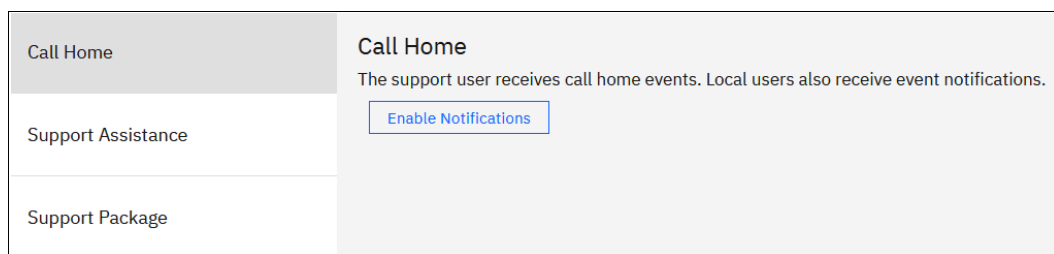

Figure 13-38 Configuring Call Home notifications
2. Select **Call Home**, and then, click **Enable Notifications** (see Figure 13-38). For more information, see this IBM Documentation web page.